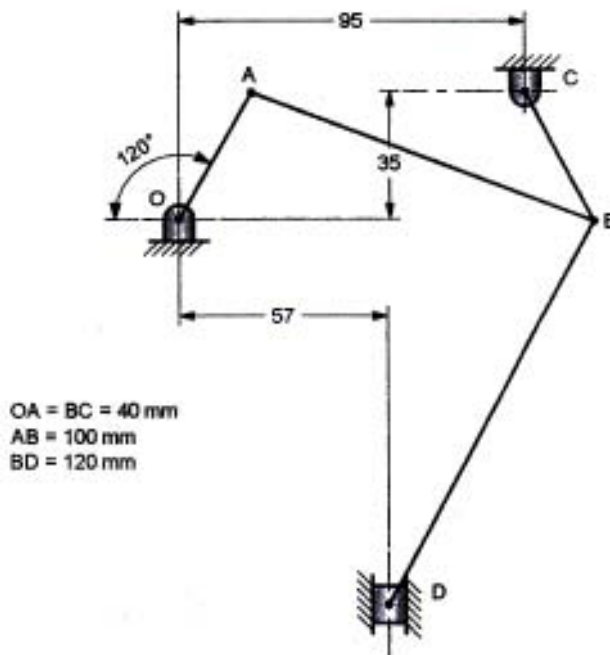

Fig. 1 [For Q. 3 (b) and Q. 4 (b)]
- b) For mechanism shown in Fig. 1 in which crank OA is rotating anticlockwise at 10 rad./sec. By using instantaneous centre of rotation method, calculate velocity of slider D and angular velocity of link BC. 10